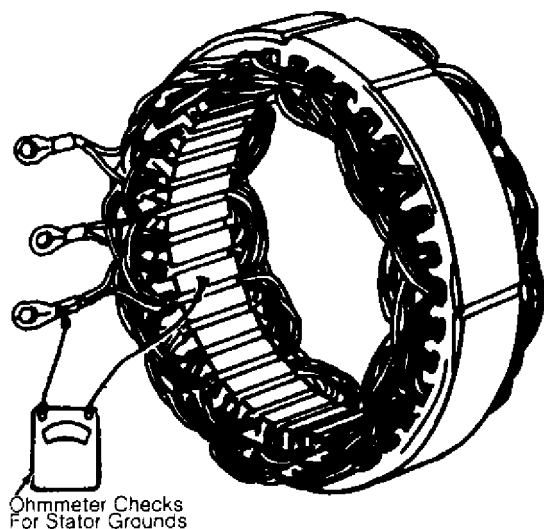

Fig. 4: Testing Generator Stator (CS144)
2) With ohmmeter set to its highest range, ensure coil is not grounded to stator core. See Fig. 4. Ohmmeter should indicate infinite resistance. If ohmmeter does not indicate infinity, replace stator. Stator cannot be checked for opens or shorts with ohmmeter.